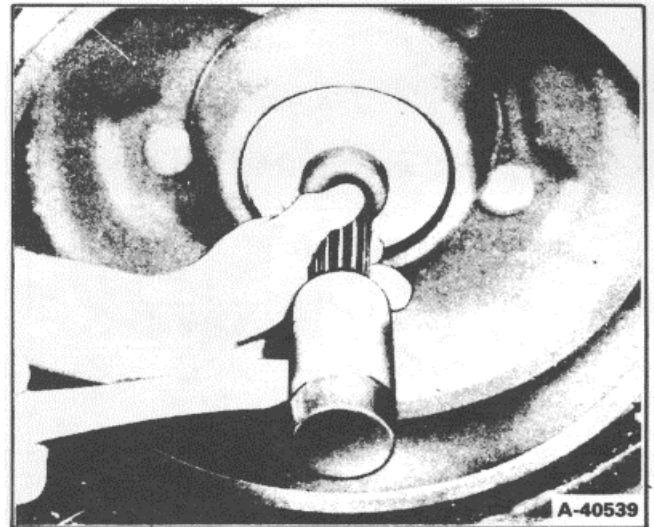

Figure 21.
3. Install hub seal using SE-1905 Installer Set to prevent cocking seal (Figure 21). Select the size disc which will apply force to outer edge of hub seal and prevent seal from becoming distorted or damaged.